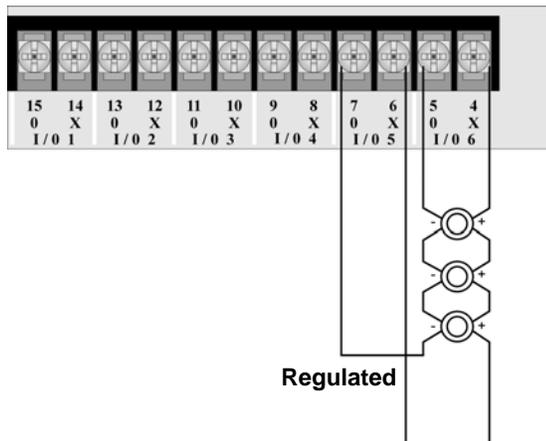

Figure 3.9 Class A Notification Appliance Circuit Configuration
1. Wire the Class A notification appliances as shown in Figure 3.9.
NOTE: In programming any point that uses multiple I/O circuits are always referred to as the lowest I/O circuit number used. For example, Figure 3.9 uses both I/O circuit 5 and 6, so in programming it would be referred to as point 5